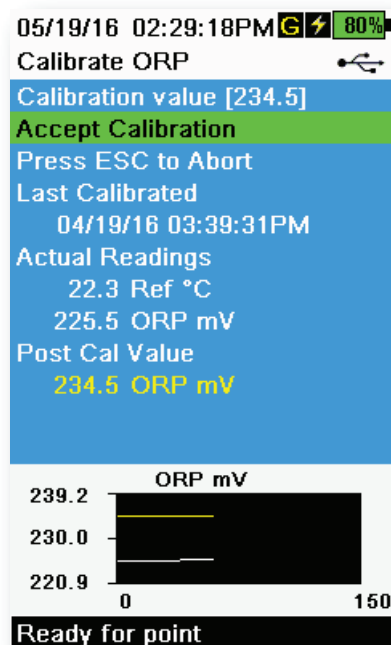

Figure 53 Calibrate ORP
7. Observe the actual measurement readings for stability (white line on graph shows no significant change for 40 seconds), then select **Accept Calibration** (Figure 53). "Calibration successful!" will be displayed in the message area.